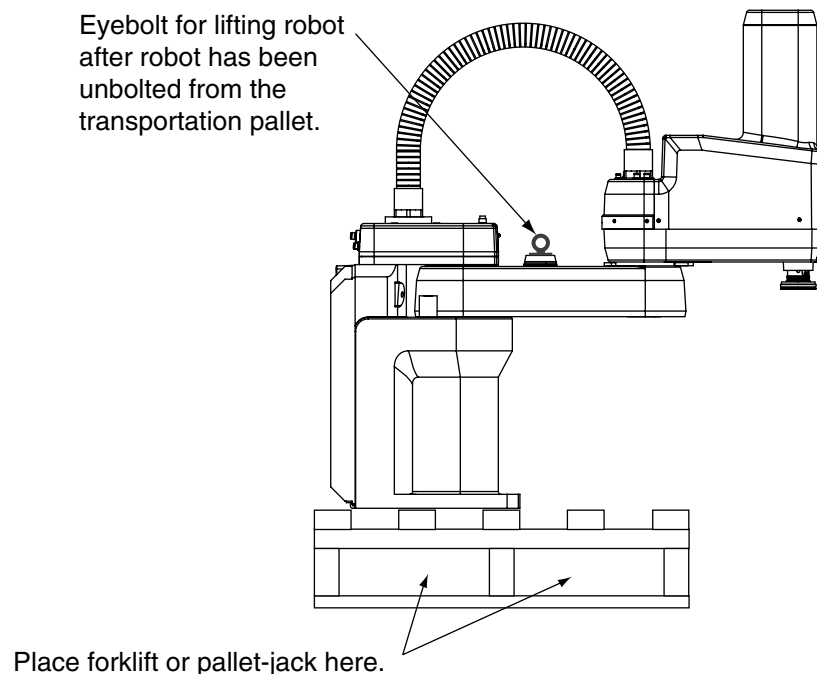

Figure 3-1. Cobra PLC600/PLC800 Robot on a Transportation Pallet
Use a forklift, pallet jack, or similar device to transport and store the packaged equipment (see Figure 3-1).
2. While the robot is still bolted to the transportation pallet, connect the hydraulic lift to the eyebolt at the top of the inner link (see Figure 3-1 on page 37). Take up any slack, but do not lift the robot at this time.